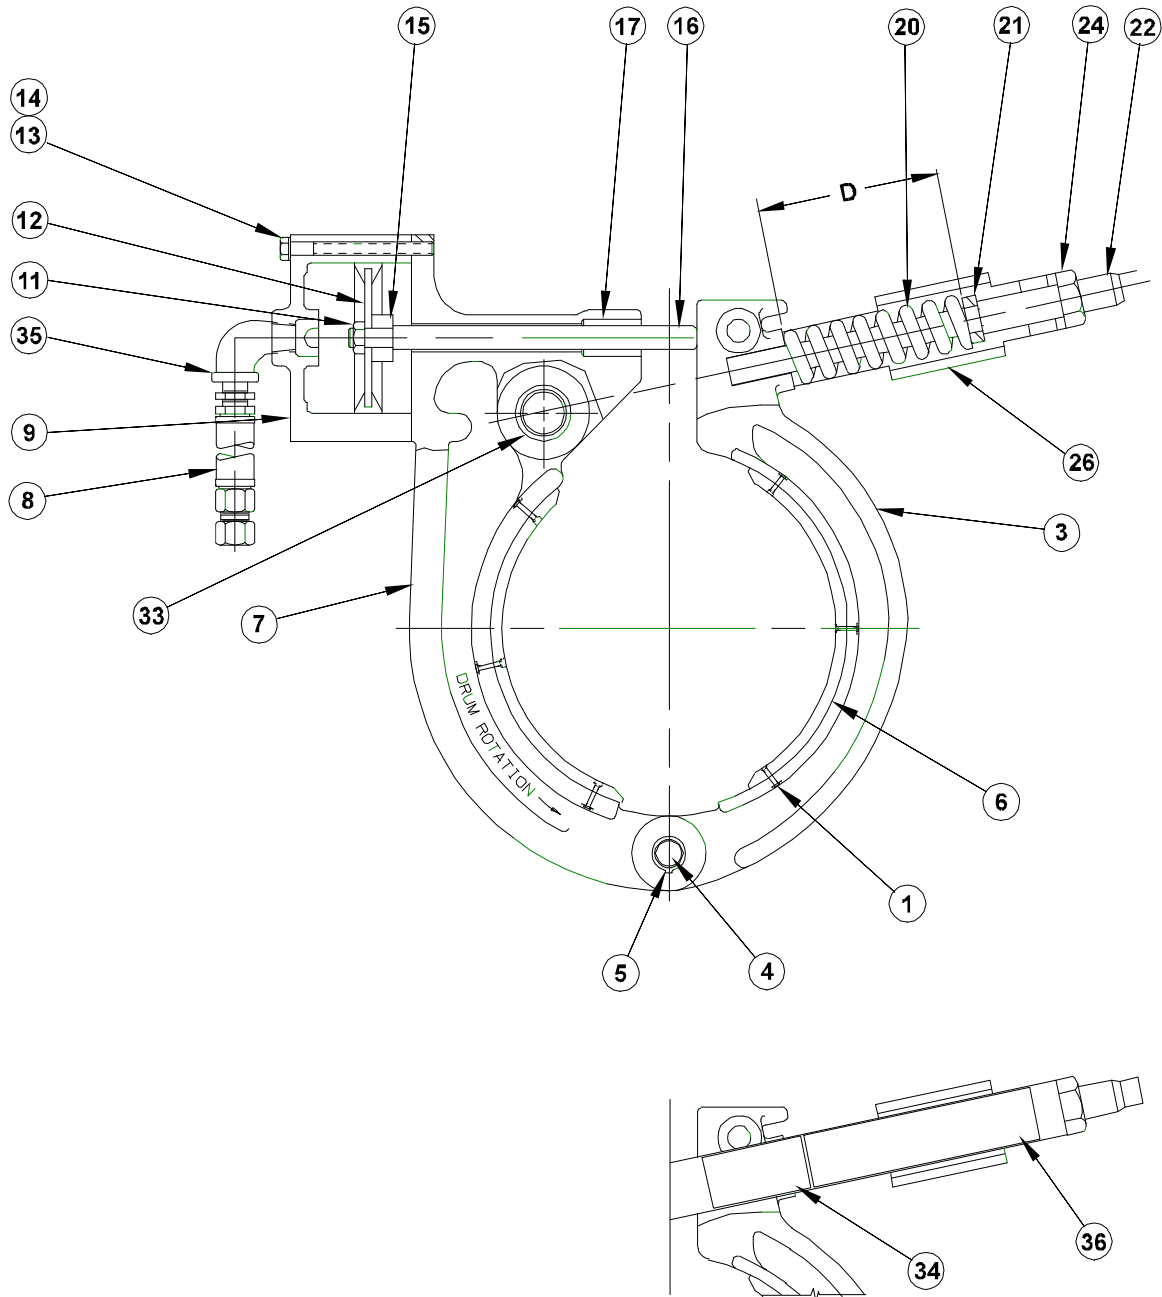

Figure 2
2.2.1 The air cylinder (9) used on the CS & CSA brakes has a vent hole (refer to Figure 2). Mount the brake so that this vent hole faces in a downward direction (as shown in Figure 2) or is otherwise guarded to avoid contaminants from entering the cylinder.